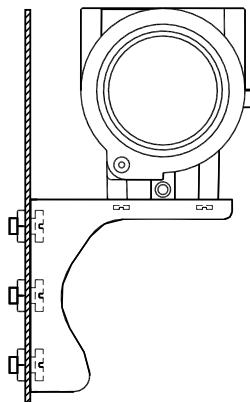

Figure 2.2 The installation of plate
**The installation of plate mounting angle bracket:** the typical installation as Figure 2.2 shows. Fix NCS-IF105 converter in angle bracket using four bolts provided, and then fix the angle bracket on the plate through the M10 bolt not provided.